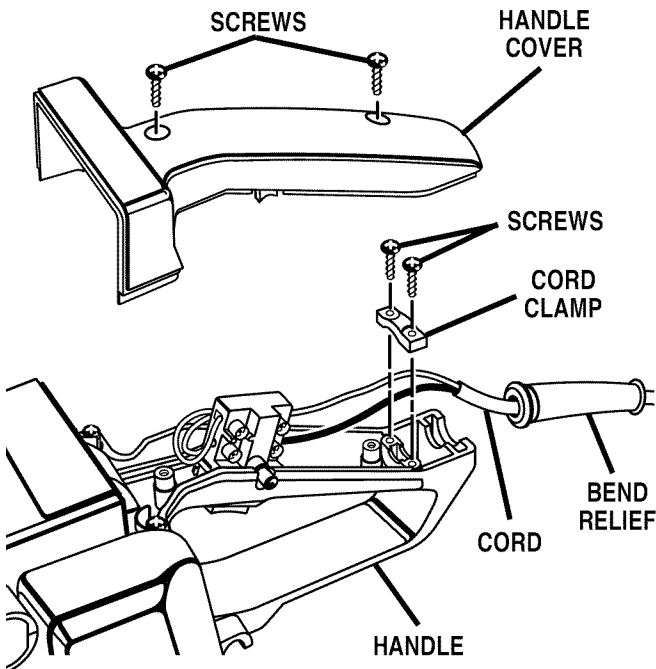

Fig. 14
See Figures 14 and 15.
- Remove the handle cover screws and handle cover. Note the locations of all wiring in the handle and how each connection is made to the switch. Connections and wiring position must be identical when installing new cord. See Figure 14.
- Arrange the wiring in the handle so that it will not be pinched or contact screws when the handle cover and screws are replaced. Position the switch in place. See Figure 14.